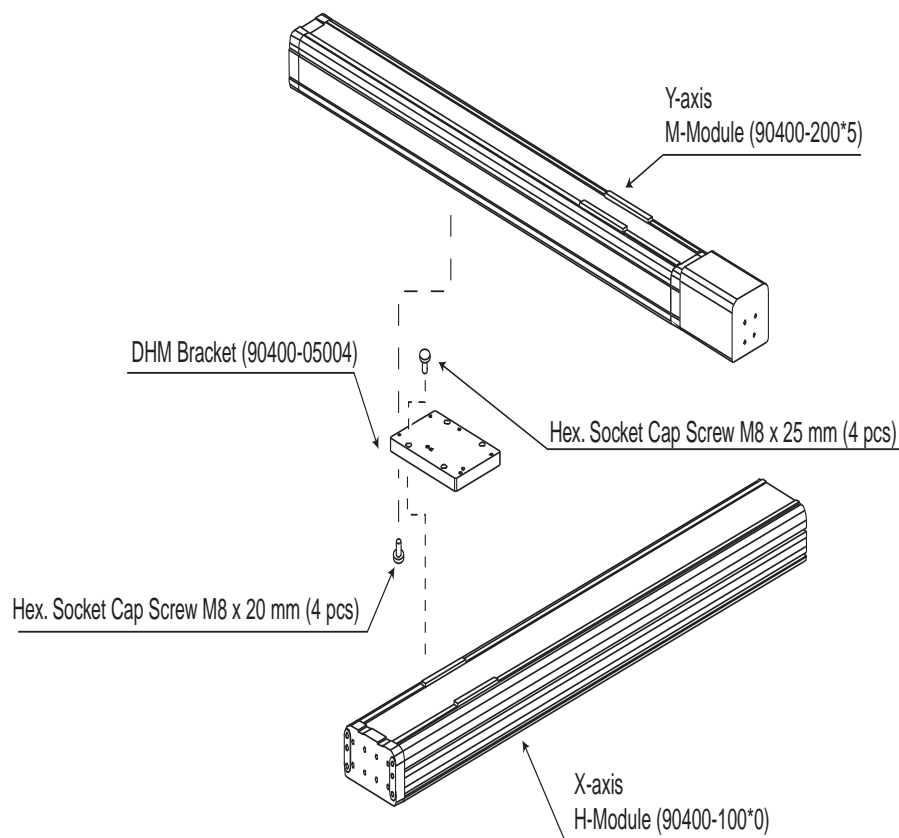
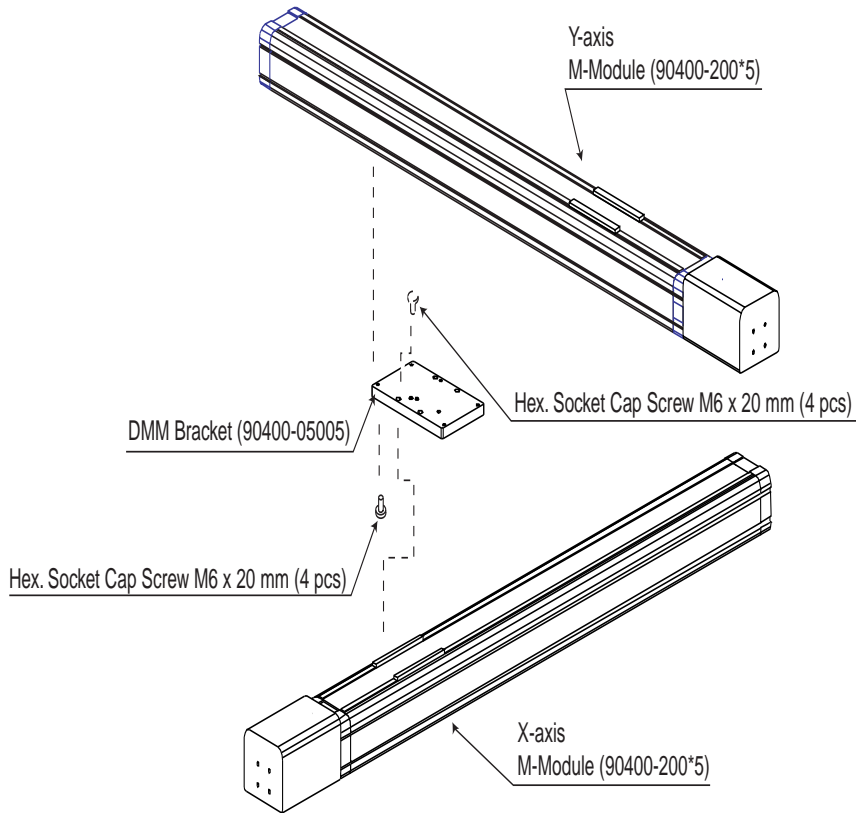

Figure 4-14. D-1 Type Mechanical Assembly
Figure 4-15. D-2 Type Mechanical Assembly
4. Mate the Y-axis to combining bracket by aligning the motor-side pin holes on the Y-axis module to the pins on the side of the bracket (these holes are on the side opposite the sliders). Carefully mate the pins and pin holes to avoid damaging the pins. Install the mounting bolts (see Figure 4-14 or Figure 4-15, and refer to Table 3-3 for the mounting bolt specifications).